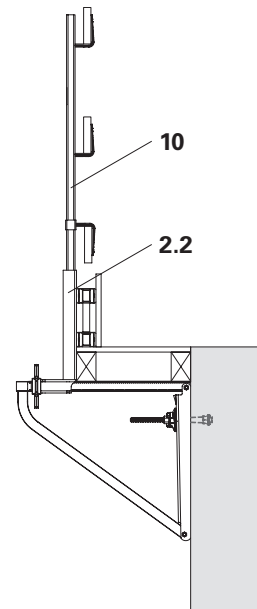

Fig. A2.05
7. Insert Guardrail Post HSGP-2 (10) into prop (2.2) and fit the guardrail. (Fig. A2.05)